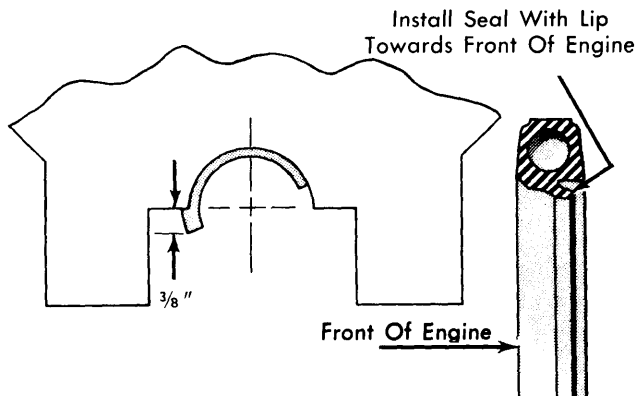

Fig. 11 Split Lip Type Rear Main Bearing Oil Seal
2) Remove oil seal retaining pin from bearing cap (if equipped). Discard pin. Dip seal halves in engine oil. Install upper seal in groove with undercut side of seal toward front of engine by rotating it on seal journal until $\frac{3}{8}$ " protrudes below parting surface (see fig. 11). Tighten main bearing cap bolts.